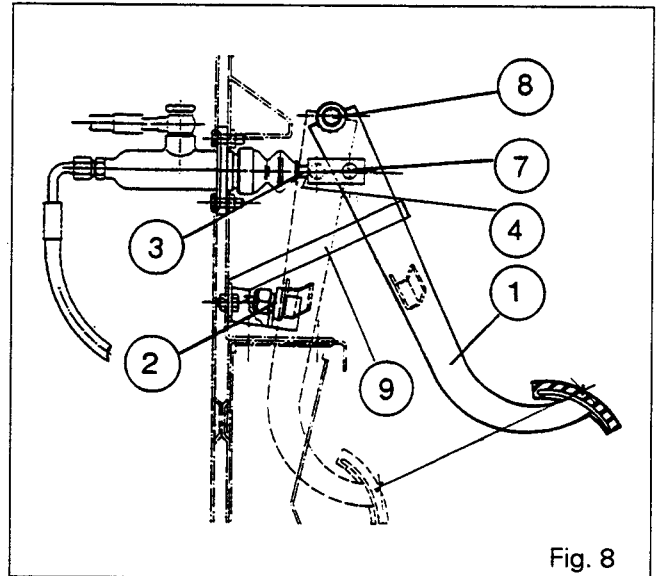

Fig. 8
1. Coat the pins (3) and (4) with molybdenum disulphide.
2. Apply Loctite 542 on thread of the rod (1).
- 150 mm : pressure loaded (Fig. 8)